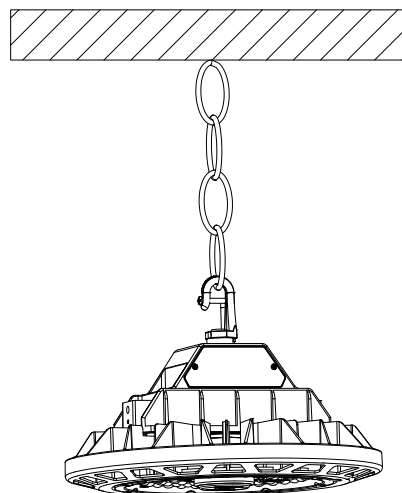

FIG. 3
4. Hang the fixture on suitable mounting place. See Fig. 3.